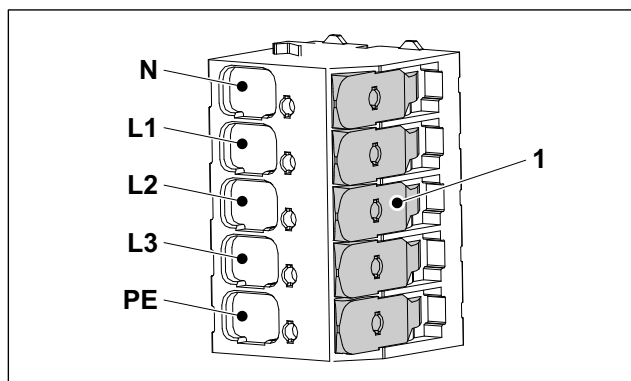

Fig. 5 Terminal clamps of the power supply unit
8. Connect the individual wires of the power supply cable as shown in the diagram (Fig. 5). If a single-phase supply voltage is used, it must be connected to L1. Terminals L2 and L3 are not used for a single-phase connection.
This is a tool-free terminal strip. Folding back the clamping lever (Fig. 5/1) opens the terminal so that the respective individual wire can be inserted. The respective clamping lever is then shut to secure the respective individual wire. Folding back more than one clamping lever at a time must be avoided.